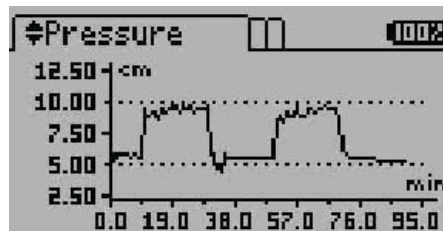

Figure 16 Pressure screen
- **Pressure Screen.** The Pressure screen displays the hydrostatic pressure (combined air and water pressure) on a graph updated every minute (Figure 16). The current measurement is indicated by a flashing dot.